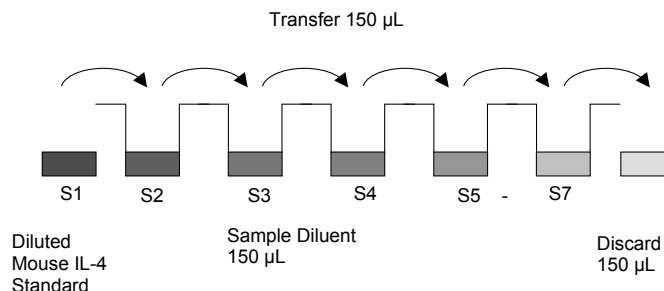

Fig. 8 External standard dilution
- Pipette 150 µL of the diluted standard (concentration = 40 pg/mL) into the second tube, labeled S2, and mix thoroughly before the next transfer. Repeat serial dilutions 5 more times thus creating the points of the standard curve (see Figure 8). Sample Diluent serves as blank.